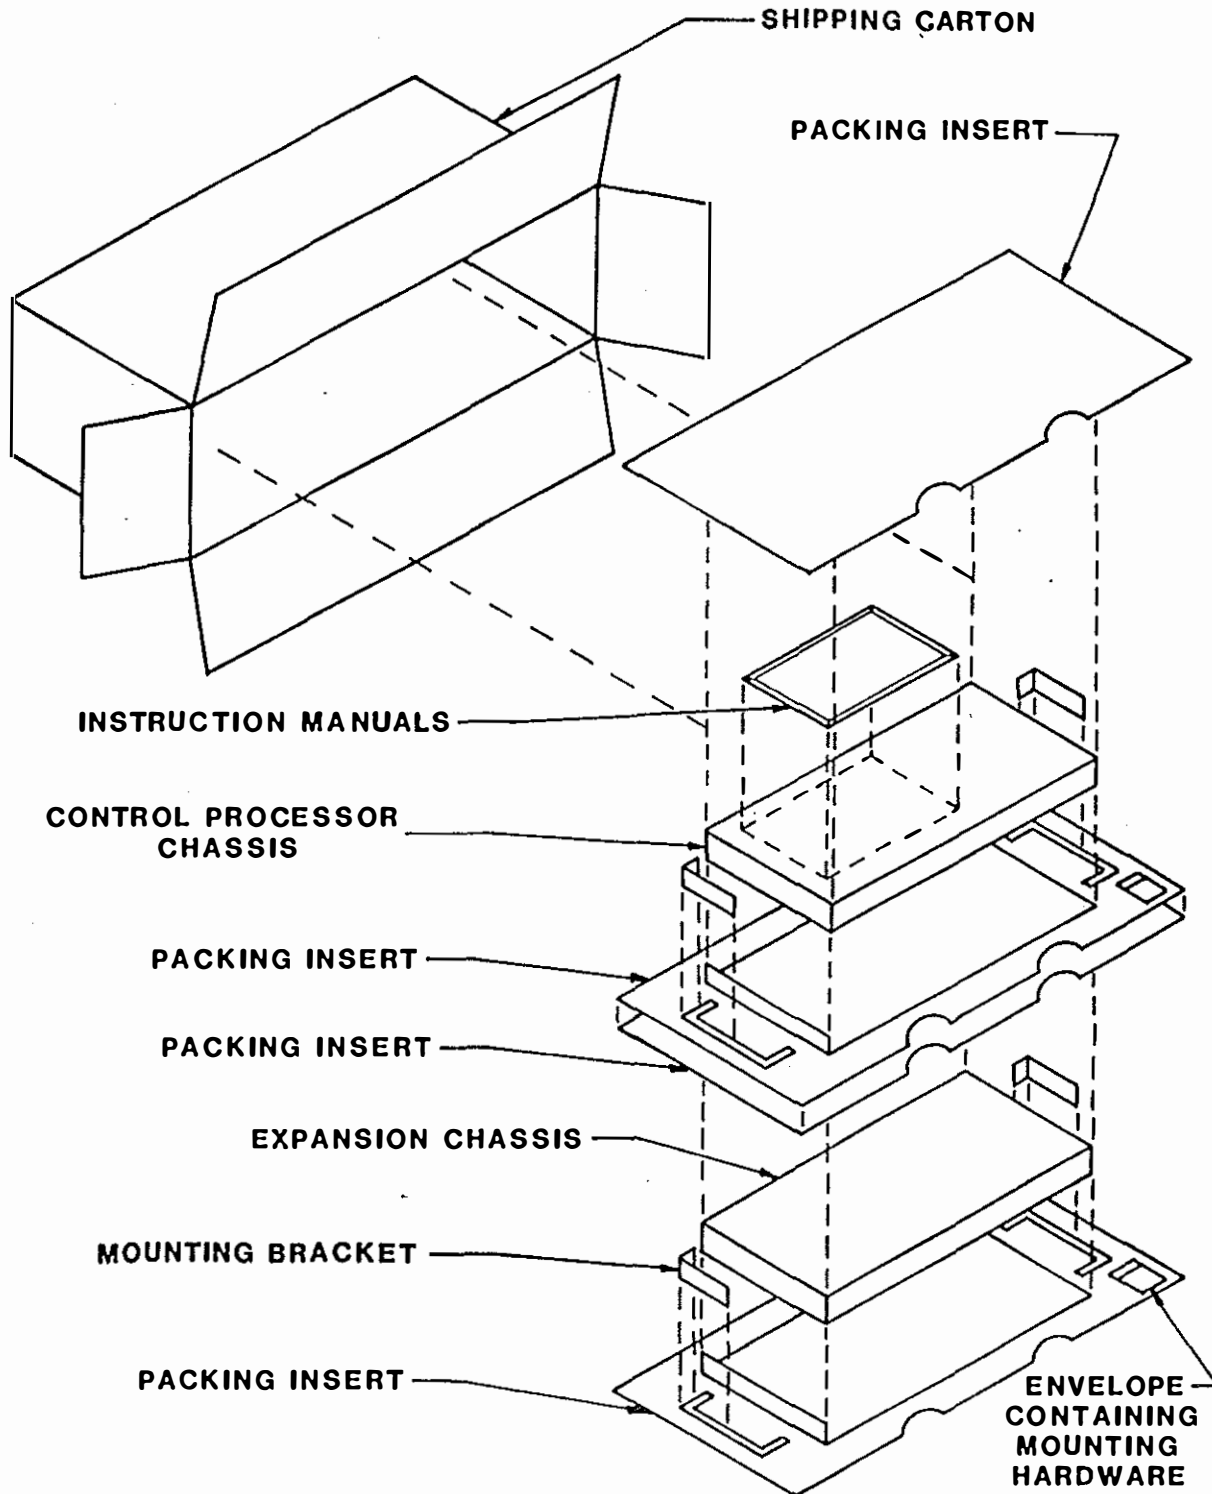

Fig. 1 - Digital Announcer Packing
1.03 If the announcer is to be returned to the factory for repair, please return in the original shipping carton and packing inserts (figure 1). Please note the mounting brackets are to be removed. Please include a detailed description of the problem, the chassis serial numbers, the date of purchase, and other items required for warranty verification.